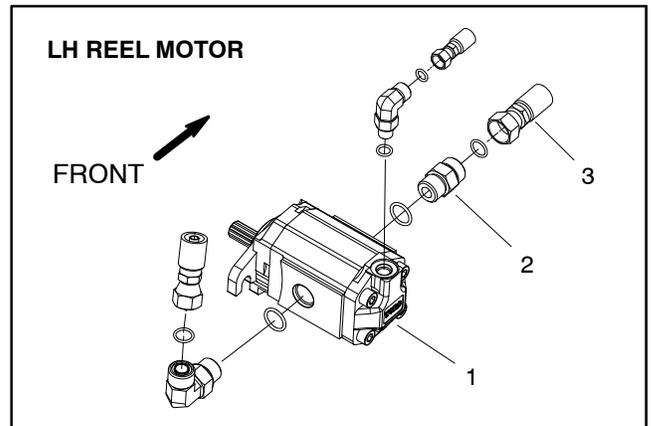

Figure 27
3. Disconnect hydraulic hose from the front fitting of the left front cutting reel motor (Fig. 27).